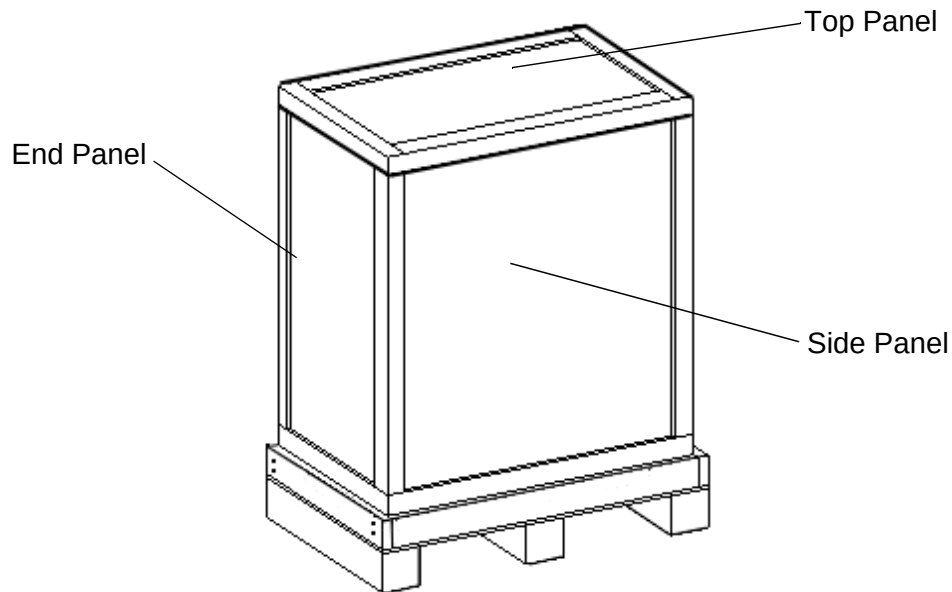

Figure 6. Crated Portrait Studio
1. Use a pry bar to remove the top panel and then both the side and end panels of the crate. Figure 6 shows the Portrait Studio packaged in a crate.